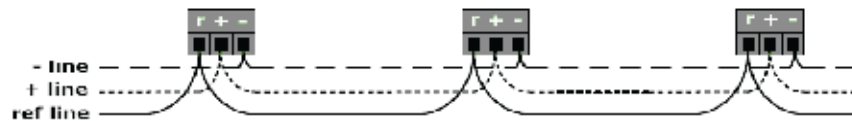

Figure 5-4 Daisy chain layout for RS-485 network
3. Connect a ground reference line to the third connection on the modbus slave connector. It is recommended that PV Powered devices have connected grounds when possible. The “ref line” (r connector) in Figure 5-4 below shows the ground connection. This is the top or GND connection of the MODBUS SLAVE connector.
When multiple inverters or other modbus slave devices are connected to a single modbus master device, the multiple devices need to be connected in a daisy chain as shown in Figure 5-4. A daisy chain means that all plus (+) connections are chained together and all minus (-) connections are chained together across the network.